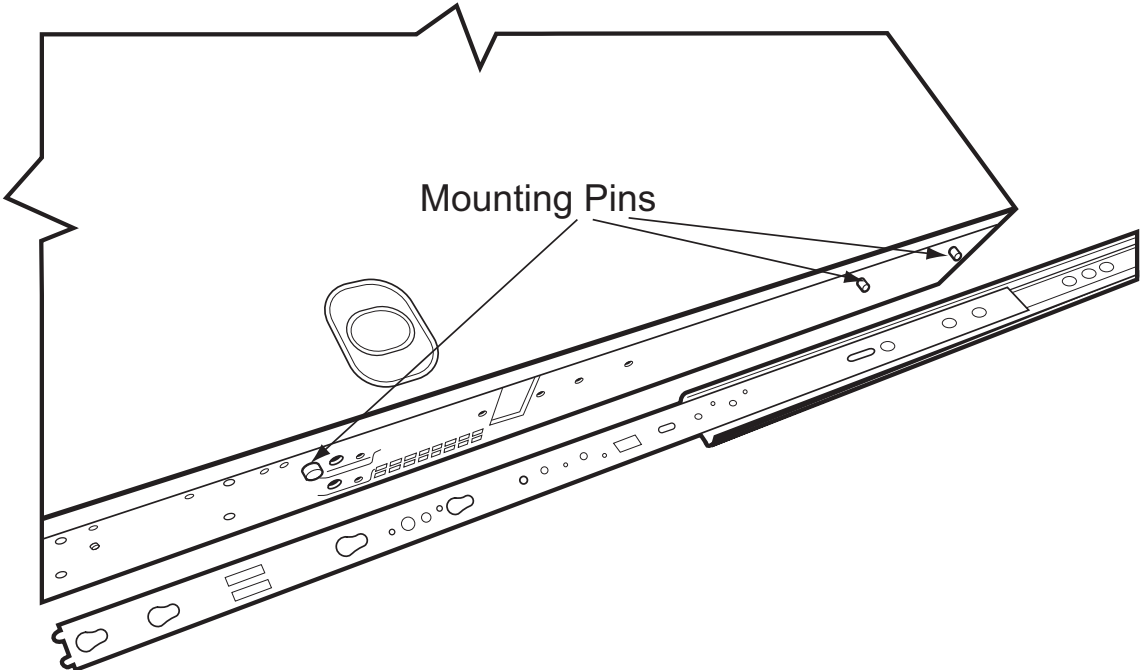
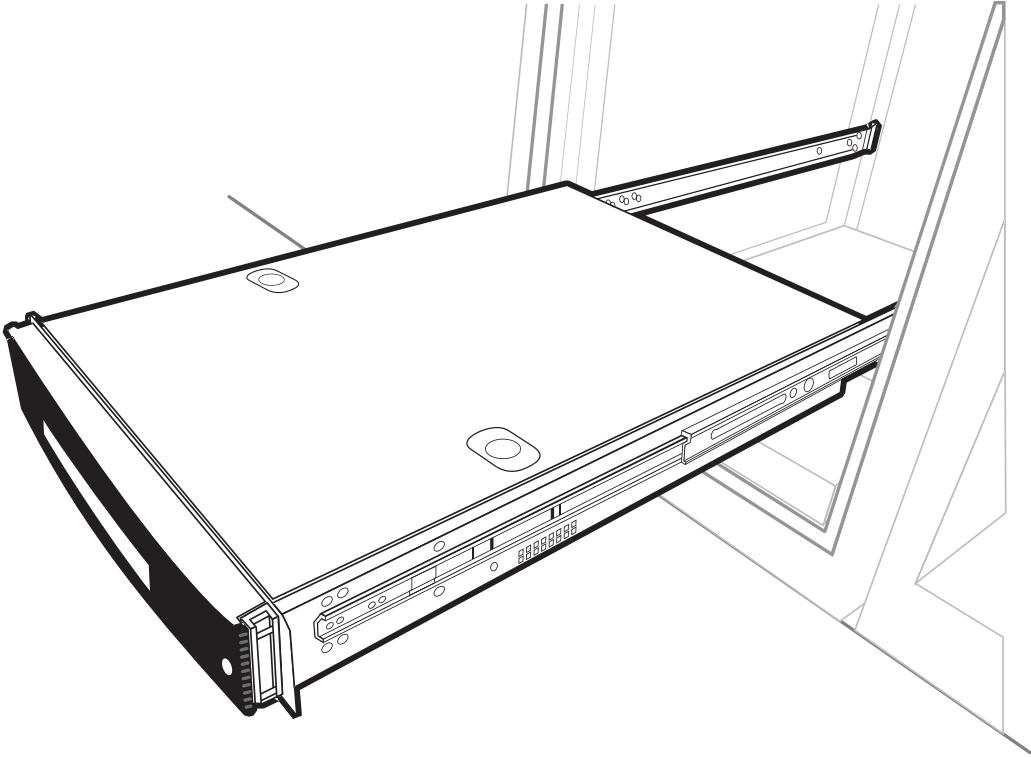

Figure 2.5 Attaching Sliding Rails to the 7800-CTRL Mounting Pins
Figure 2.6 7800-CTRL Installed on Slider Rails in the Fully Extended Position
4. Attach the 7800-CTRL to the rails. See figure 2.5 on page 15 and figure 2.6 on page 15.